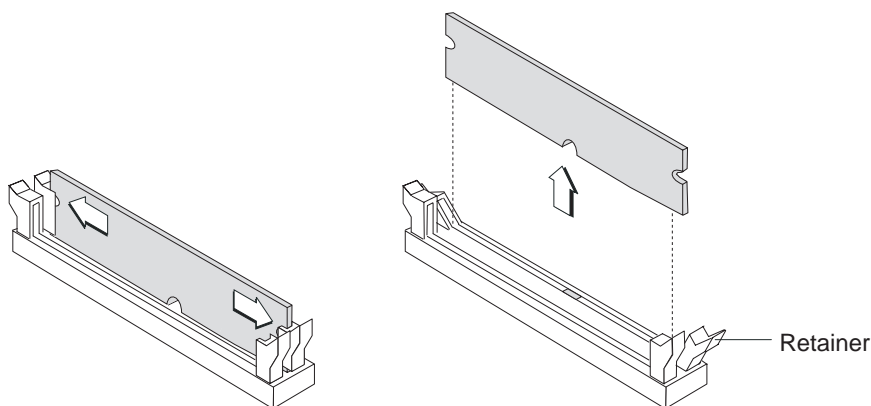

Figure 14. Memory module removal
6. Press the latches away from the module as shown in Figure 14.